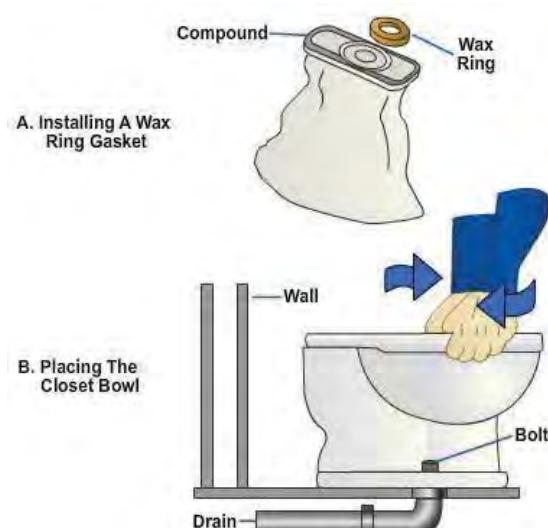

Figure 3 — Setting a closet bowl.
4. On the bottom of the water closet, as shown in *Figure 3*, View A, slip the preformed sealing ring over the horn to form a sealing gasket for the water closet against the face of the flange. Do not use putty as it will dry out and leave a possible sewer gas leak.
5. Turn the water closet bowl right side up and set it on the flange with the horn projecting down into the flange. Place a wedge under the low side of the water closet if unlevel. In setting the bowl on the flange, as shown in *Figure 3*, View B, guide the two hold-down bolts up through the bolt holes on either side of the base of the water closet. Use your full weight to press down and twist